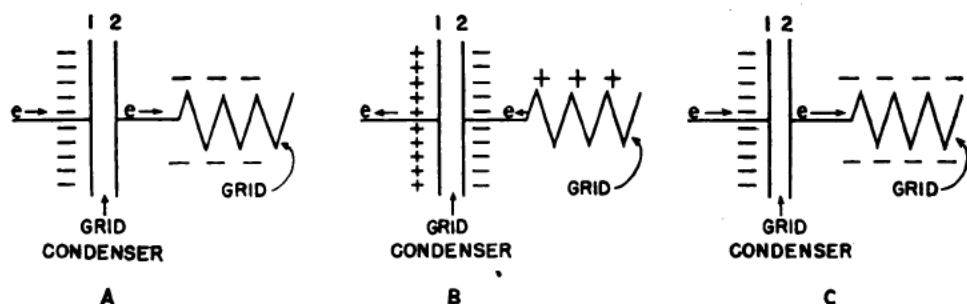

Figure 5.—Action of grid leak condenser.
But suppose you don't want to bother with "C" batteries—they wear out, are heavy and fragile. All right, put a fixed condenser and resistor in the grid circuit. Here's how this set-up works. When the input current goes negative, plate 1 of the condenser in figure 5 (A) takes on a negative charge. Some of the negative electrons on the other plate
the condenser are repelled and driven over into the grid, making it negative. When the input circuit becomes positive on the next cycle of alternation, plate 1 of the fixed condenser in figure 5 (B) becomes positive; the negative electrons out on the grid are attracted back to plate 2 of the condenser, and the grid is positive again.
time your input circuit goes negative as in figure 5 (C), the negative electrons on plate 2 scurry out into the grid to get away from the negatives rushing into plate 1, and your grid gate is shut fast and tight against the flow of electrons from the filament to the plate. Your condenser system WORKS, just as well as the "C" battery did, in fact.